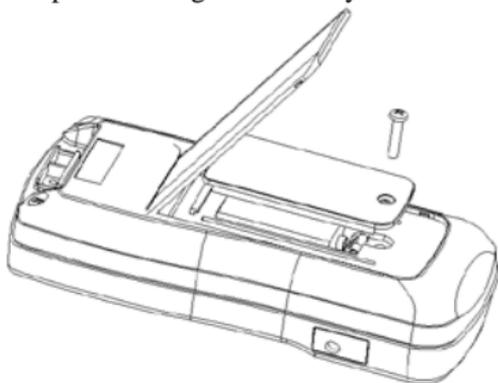

Figure-9. Battery Replacement.
1. Loosen screws with suitable screwdriver and remove battery cover as **Figure-9**.